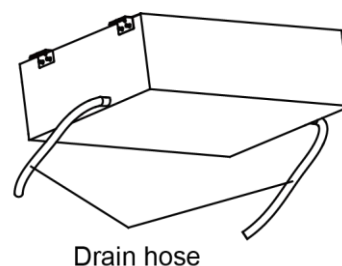
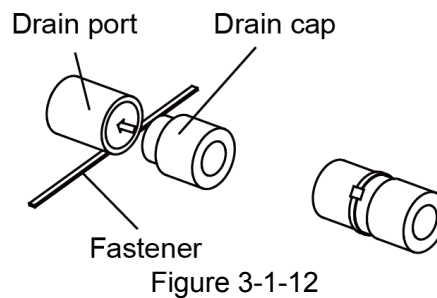

Figure 3-1-10
Figure 3-1-12
- (5) Use a suitable drain hose, and see Table 3-2-4 for its size.
- (6) There is a drain port on both the left and right sides. Select the drain port to match the local conditions.(Figure 3-1-10)
- (7) When the unit is shipped from the factory, the drain port is defaulted to be the one on the left side (electric box side), the port on right side has been plugged.
- (8) When using the drain port on the right side of the unit, reinstall the drain cap to the left side drain port.(Figure 3-1-12)